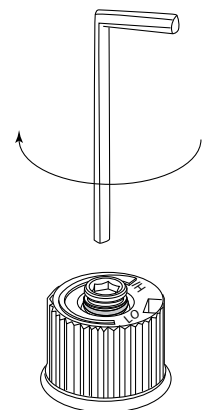

Fig. 76
- Using the Allen wrench as shown in Figure 76, rotate the screw clockwise and tighten until snug.